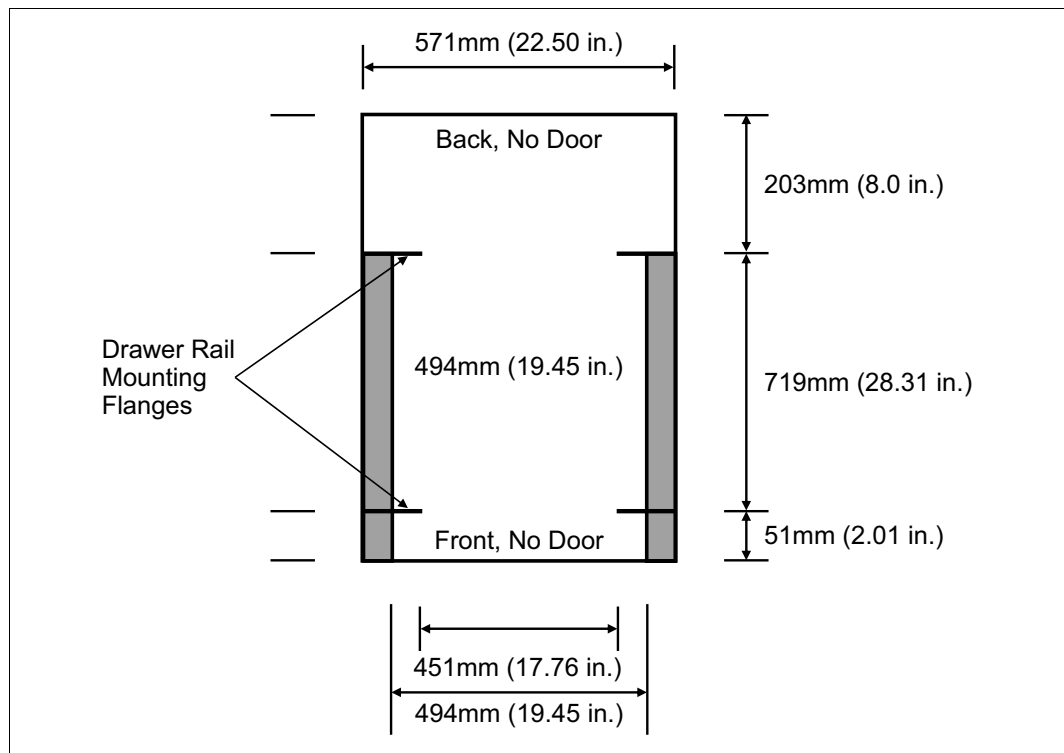

Figure 1-13 Top view of rack specification dimensions (that are not IBM)
- ▶ The front-rack opening must be 451 mm wide ± 0.75 mm (17.75 in. ± 0.03 in.), and the rail-mounting holes must be 465 mm ± 0.8 mm (18.3 in. ± 0.03 in.) apart on center (horizontal width between the vertical columns of holes on the two front-mounting flanges and on the two rear-mounting flanges). Figure 1-13 shows a top view of the specification dimensions.